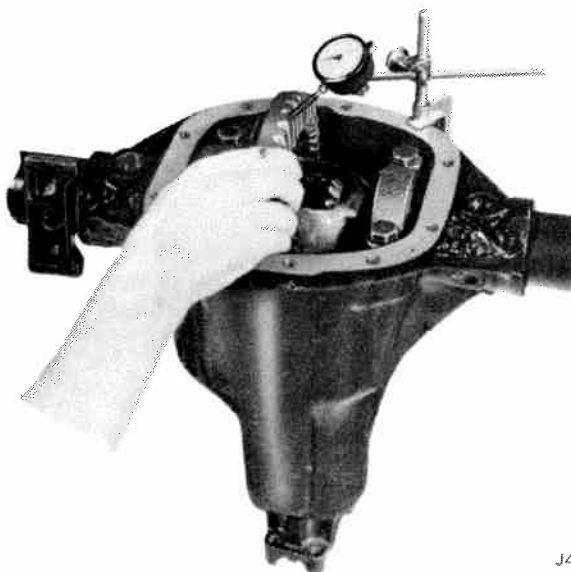

Fig. 10-32 Checking Ring Gear Backlash
(7) Remove indicator.
(8) Lubricate bearings and place differential in carrier.
(9) Tap unit carefully into place with soft mallet, making sure ring gear teeth mesh with pinion teeth.
(10) Install bearing caps, matching their markings with those on carrier.
(11) Apply sealing compound to screw threads. Tighten screws to specified torque.
(12) Install dial indicator to check ring gear backlash (fig. 10-32). Check backlash at two points. Backlash must be held between 0.005 inch to 0.010 inch. If backlash does not fall within specifications, shims should be interchanged between the two differential bearing shim packs until correct backlash is obtained.